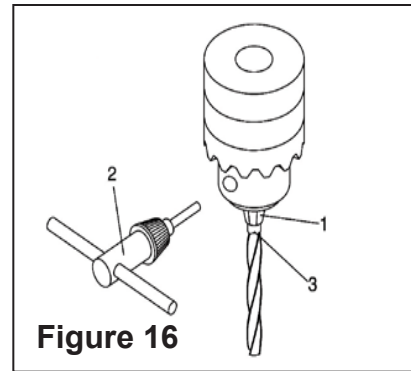

Figure 16
Check the laser beam alignment to ensure the intersection of the laser lines precisely at the spot where the drill bit meets the workpiece. If it is not, the laser lines should be adjusted using the laser adjustment knobs located on the opposite sides of the head assembly. **See Fig. 16**
### 1. Installing A Drill Bit See Fig. 16
1. Mark the depth (1) of the hole on the side of the workpiece. (Figure 16).